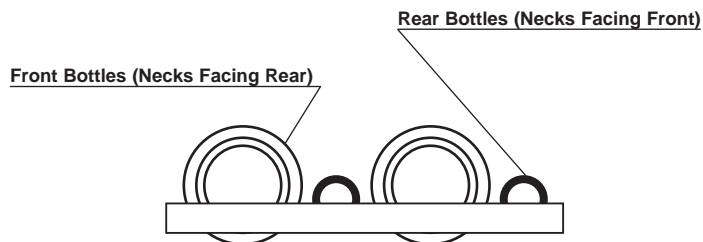

Figure 3
**Insert Wine Bottles:** The wine rack roll-out shelf holds four bottles. See figure 3 for typical wine bottle orientation.